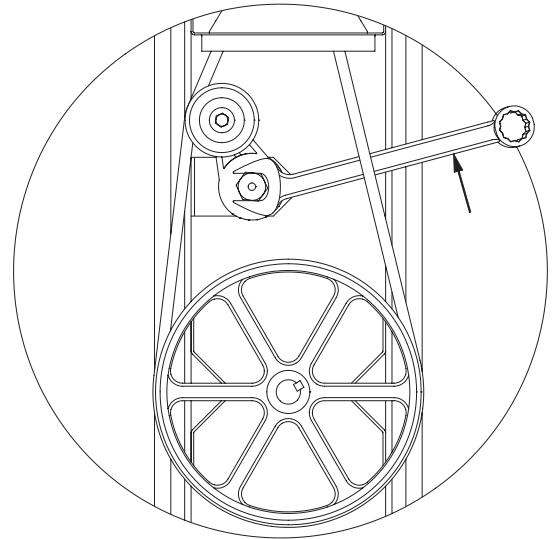
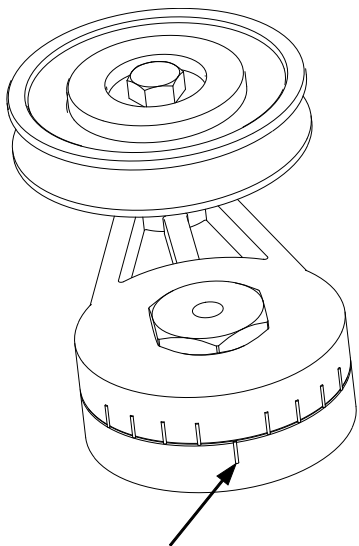
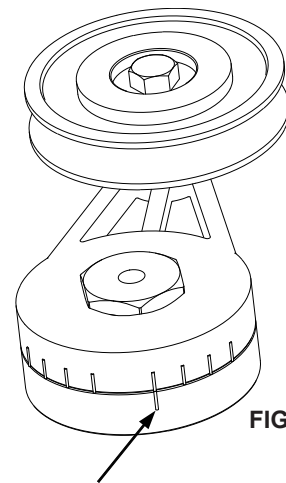

FIGURE 1
FIGURE 2
FIGURE 3
2. Place a wrench on the hex nut in the belt tightener body as shown in Figure 1 and a wrench on the belt tightener mounting fastener.
3. Using the wrench on the belt tightener body, apply pressure in the appropriate direction (see Figure 1) until the belt is properly tensioned. Note: The belt tightener body has marks on it as shown in Figure 2 representing degrees. The proper alignment after tightening the mounting bolt is shown in Figure 3.
5. If the belt tightener cannot be adjusted without hitting another part of the fan, tighten the belt by adjusting the fans motor base toward the top of the fan with the belt tightener mounting bolt loose (see item 1). Continue the adjustment at Item 2.